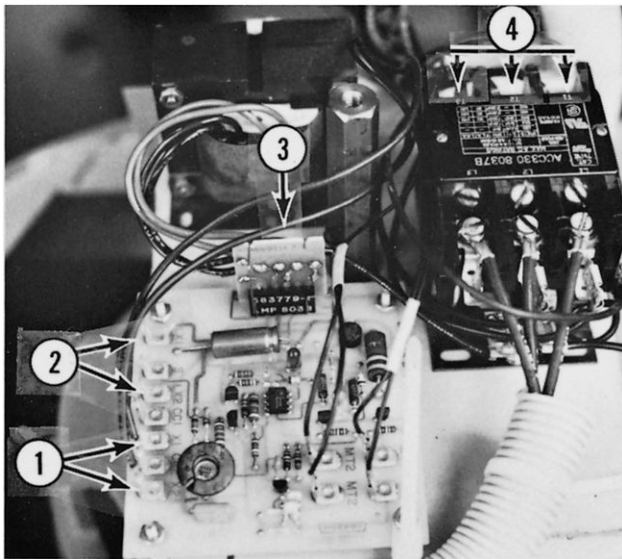
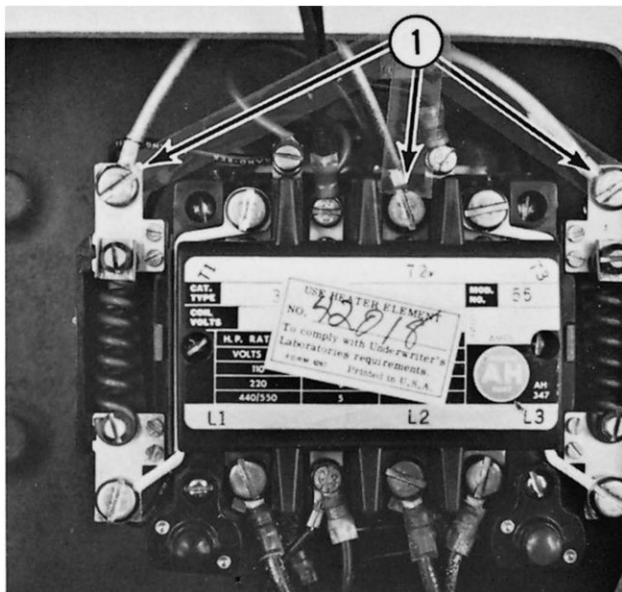

Fig. 16-2
Fig. 16-3
A. Start the mixer and test the voltage on the load side of the contactor (4, Fig. 16-2) solid state mixers and (1, Fig. 16-3) non solid state mixers, between terminals:
C. Clamp the amp tester around motor lead T1. (See 4, Fig. 16-2 if solid state or 1, Fig. 16-3 if non solid state.)